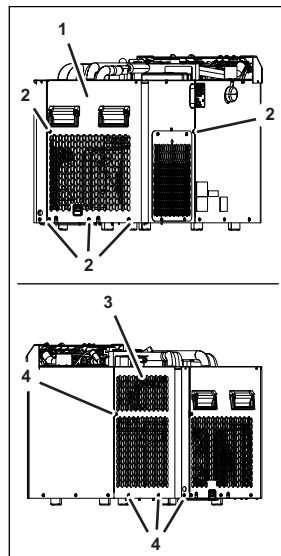

Figure 33
1. Remove the fastening bolts (Figure 33/2) from the sheet casing (Figure 33/1).
2. Lift off the sheet casing (Figure 33/1).
3. Remove the fastening bolts (Figure 33/4) from the sheet casing (Figure 33/3).
4. Lift off the sheet casing (Figure 33/3).
5. Position the new sheet casing (Figure 33/3) on the unit.
6. Attach the sheet casing (Figure 33/3) using the fastening bolts (Figure 33/4).
7. Position the new sheet casing (Figure 33/31) on the unit.
8. Attach the sheet casing (Figure 33/1) using the fastening bolts (Figure 33/2).